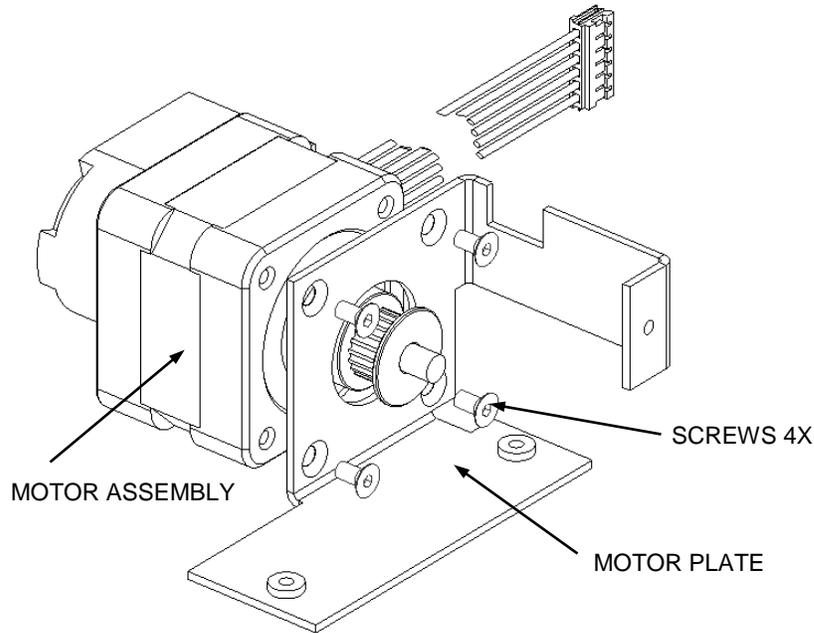

Figure 12-41 Motor and Motor Plate
1. Remove the motor from the Motor Plate (Figure 12-41).